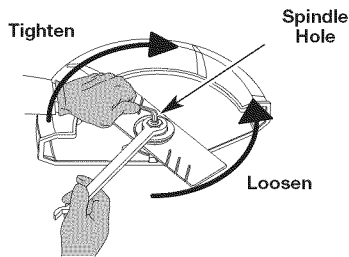

Fig. 16
1. Place the 5/16" Allen wrench in the spindle hole (Fig. 16).
2. While holding the Allen wrench in place, loosen the nut with a 15/16" wrench by turning it counterclockwise (Fig. 16).
5. While holding the Allen wrench in the spindle hole, tighten the nut by turning the wrench clockwise until tight (Fig. 16).